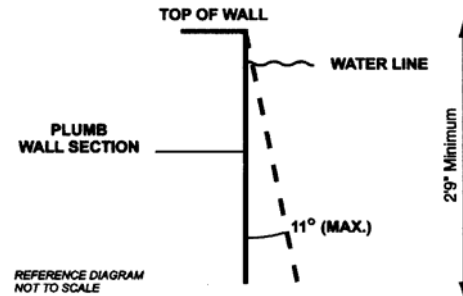

Figure 1- Maximum allowable wall slope
5.3.1 Walls in the shallow area and deep area of the pool shall not slope greater than 11° (1:5 slope ratio) to a transition point. The transition point shall not be less than 2 feet and 9 inches (83.8 cm) below the waterline. See figure 1.